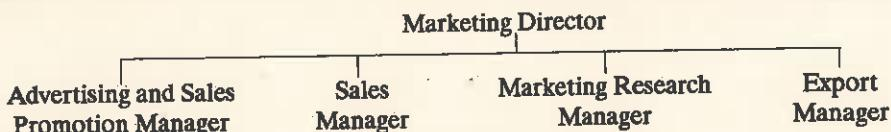

Fig. 31.1. Functional Organization.
- The functional organization (Fig. 31.1) is usual for the small or medium sized company with a limited range of related products.